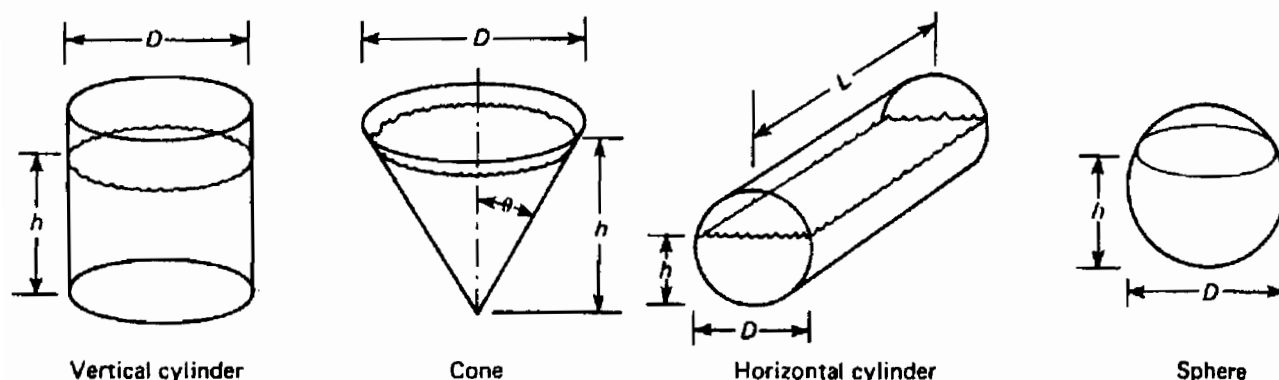

Figure TP32.1P1
1. Refer to the tank in Example 32.2. If the square tank is replaced by (a) a vertical cylindrical tank, (b) a conical tank with vertex at the bottom, (c) a horizontal cylindrical tank, or (d) a spherical tank with the parameters shown in Figure TP32.1P1, if h and D are the same in each tank at $t = 0$, which tank will be the first to drain completely?